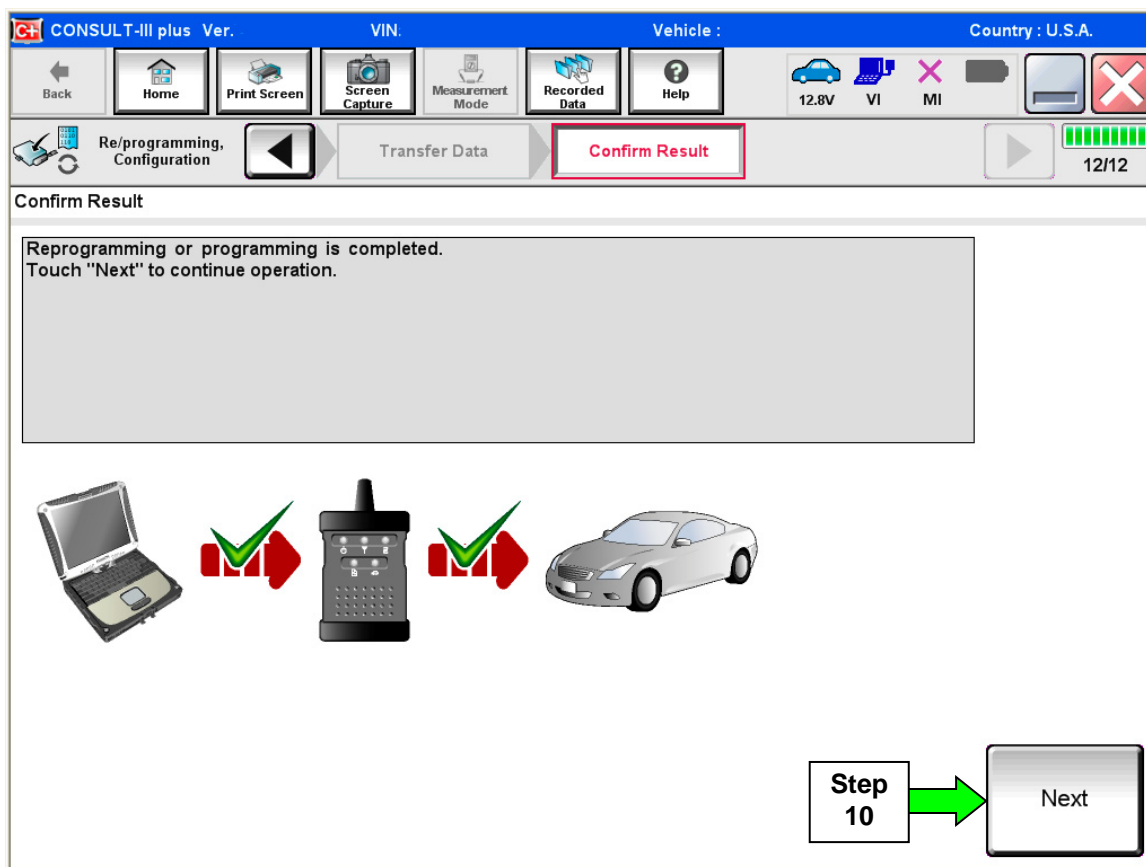

Figure 4
8. When the screen in Figure 4 displays, reprogramming is complete.
NOTE: If the screen in Figure 4 does not display (indicating that reprogramming did not complete), refer to the information on page 12.